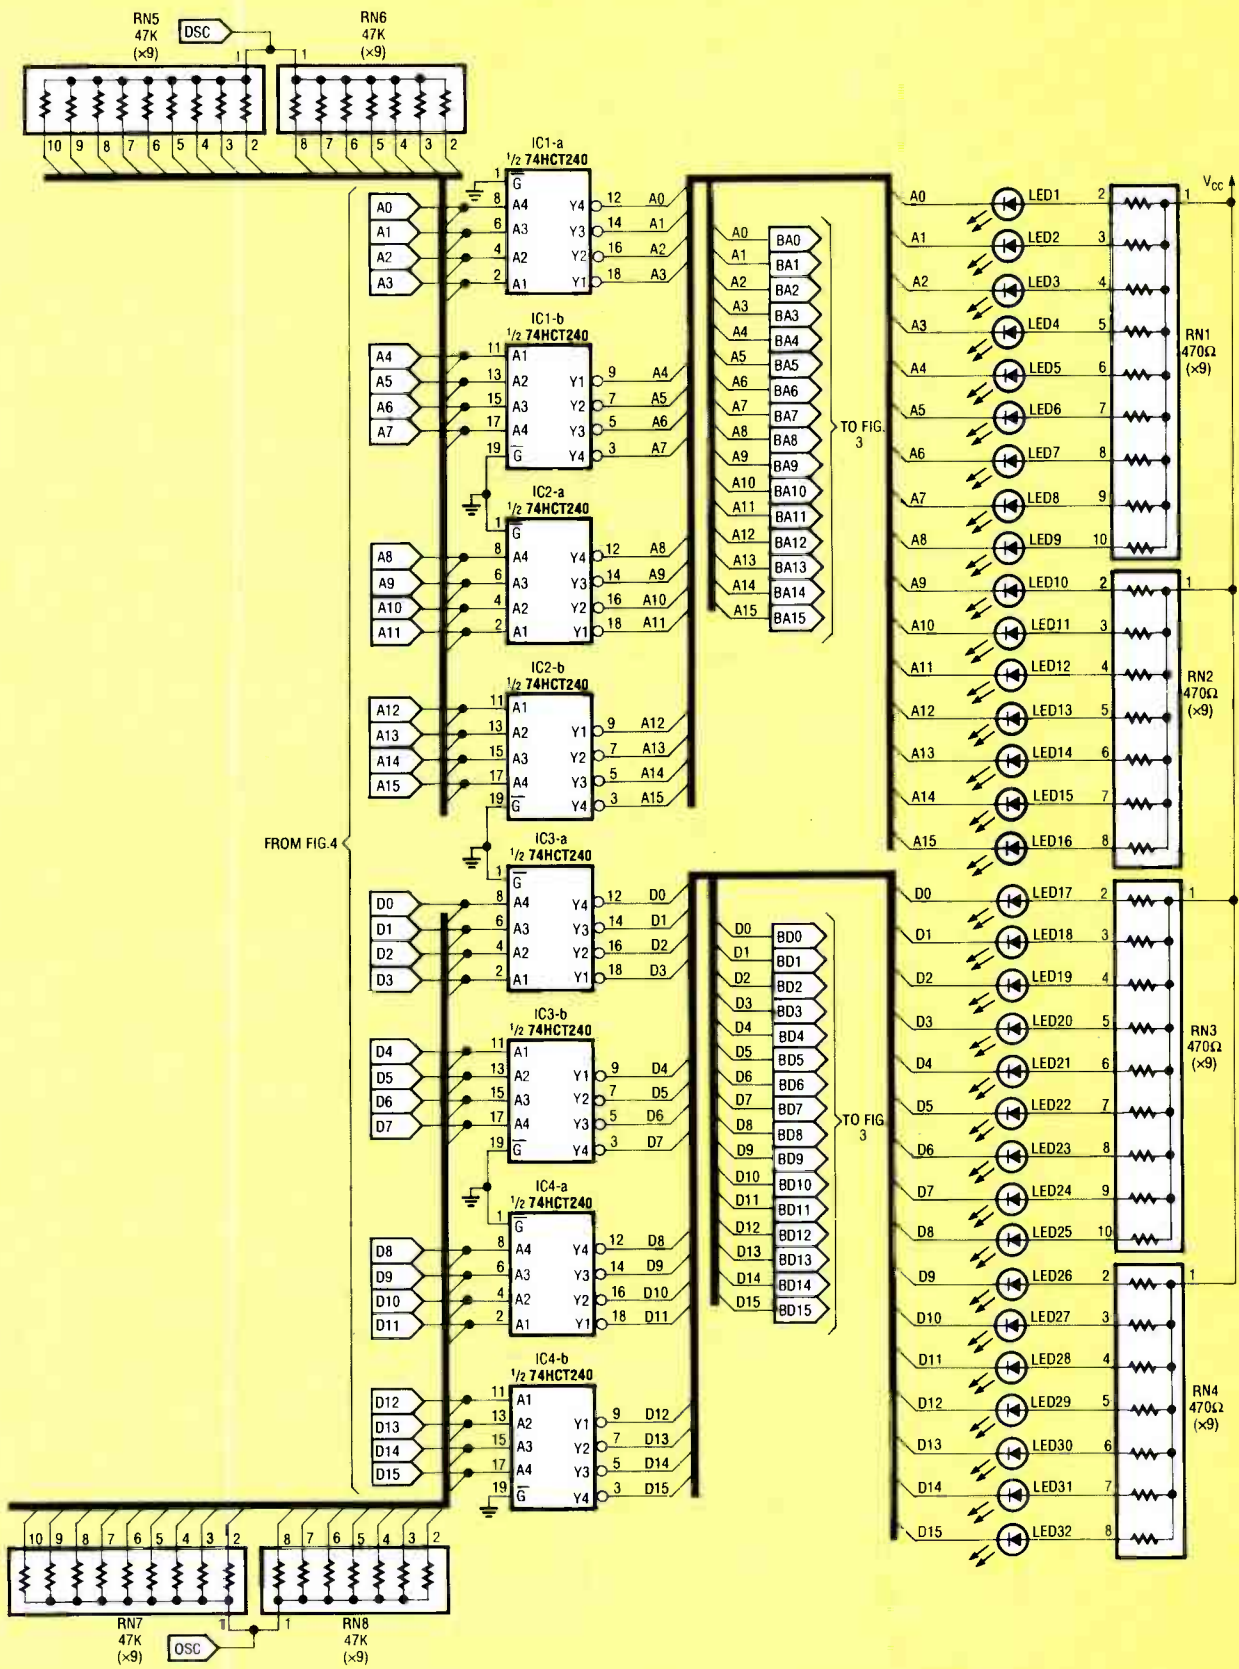

FIG. 1—THE DISPLAY CIRCUIT consists of several octal inverting buffers that drive discrete LED's to display 16 address lines and 16 data lines.
**Display Circuit.** The display circuit, shown in Fig. 1, consists of inverting buffers IC1-IC4. Address and data lines from the target system feed the buffers via the IC clip. The buffers feed address and data buses used by the rest of the system. In addition, the output of each buffer drives the cathodes of the display LED's via 470-ohm current-limiting resistors (those resistors are contained in resistor networks RN1-RN4).
FROM FIG. 1
The output of the cascaded match logic feeds into the single-step circuit (shown back in Fig. 1) and, when enabled by S34, can be used to stop the micro-processor on a specific pattern. Note also that the MATCH signal is buffered by IC8-c and delivered to J3 for use as a sync or trigger signal.
The FCC regulations are organized into a hundred separate *parts*. Figure 1 shows you the more popular parts for topics of any hardware-hacking interest. For instance, computers and peripherals have to follow part 15. Telephone interconnection has to obey part 68. Citizens band is part 95, and amateur radio is part 97. And those new direct-broadcasting satellites are now part 100.